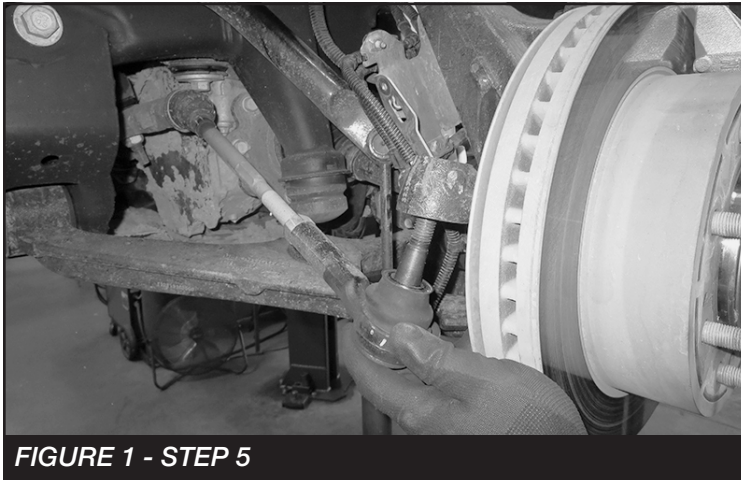

FIGURE 1 - STEP 5
5. Disconnect the tie rod ends from the steering knuckle by striking the knuckle to dislodge the tie rod end. **SEE FIGURE 1**